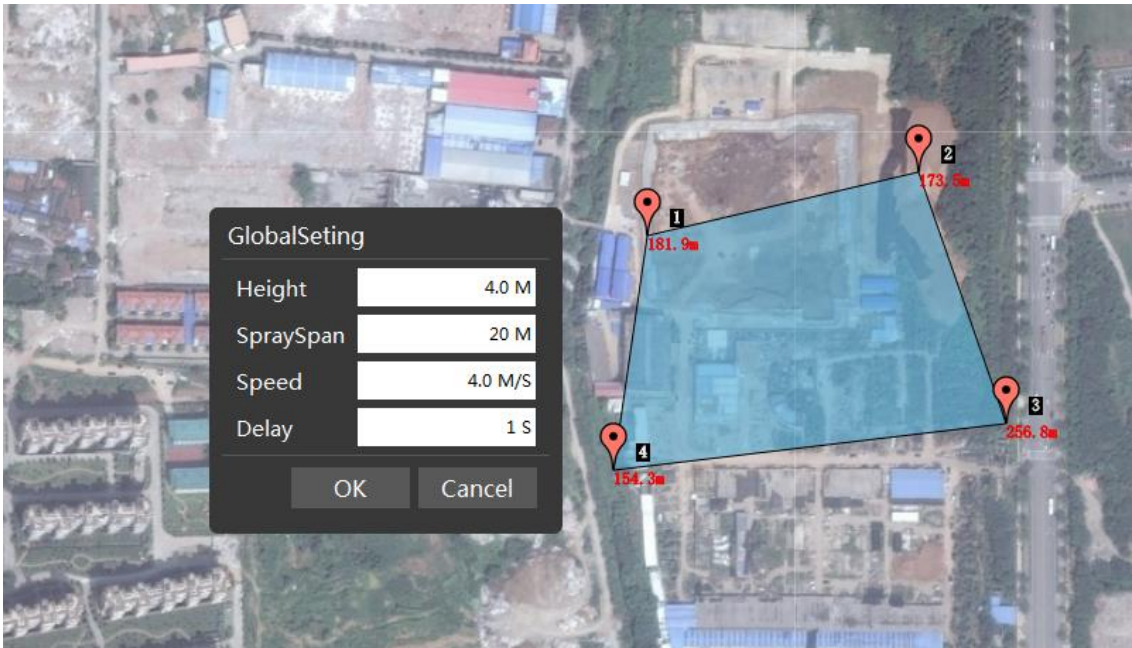

Figure 9 Region Set 3
Step3. Plan route. Right click the map, and then select "automatically plan route" in menu popping up, as shown in Figure 9.